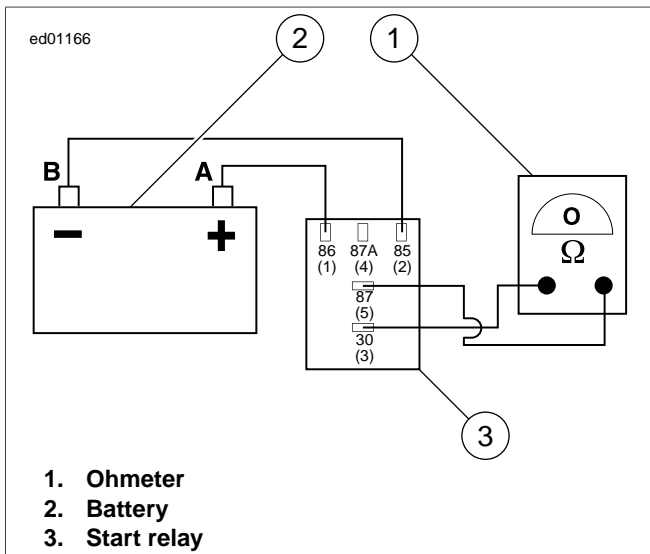

Figure 1-6. Start Relay Test
2. See Figure 1-6. The start relay can be tested using the motorcycle's 12 volt battery and a multimeter.